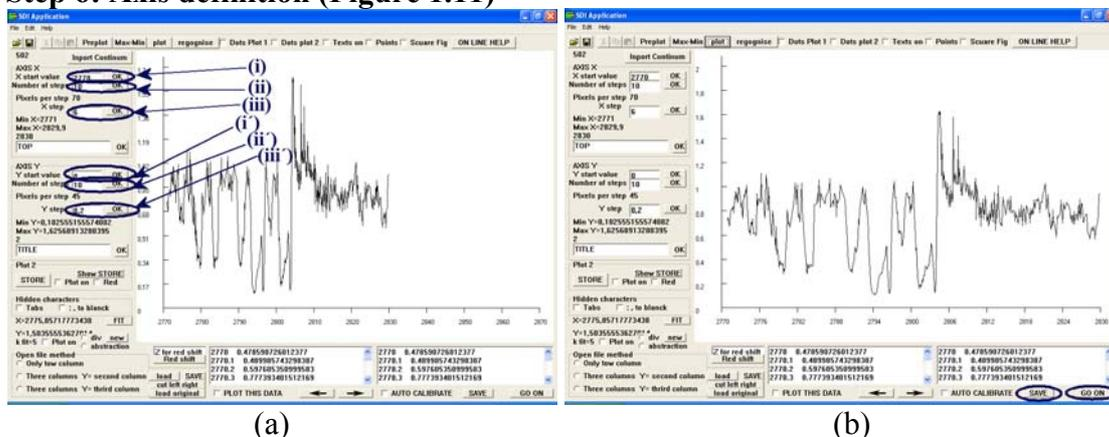

Figure 1.11
Step 6: Axis definition (Figure 1.11)